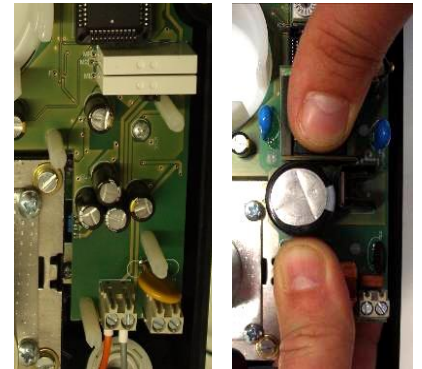

Fig. 4
- For the Comfort 230 position spacer bolts for the power supply and fit the power supply. In doing so, keep hold of the main board to avoid deformation and make sure that the pins latch into the contacts on the pin contact strip. (Fig. 4)